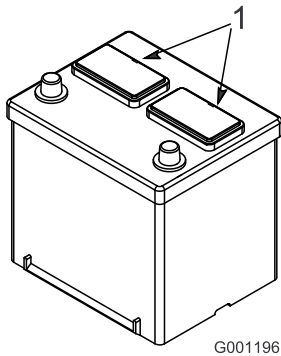

Figure 17
2. Clean the top of the battery and remove the vent caps (Figure 17).